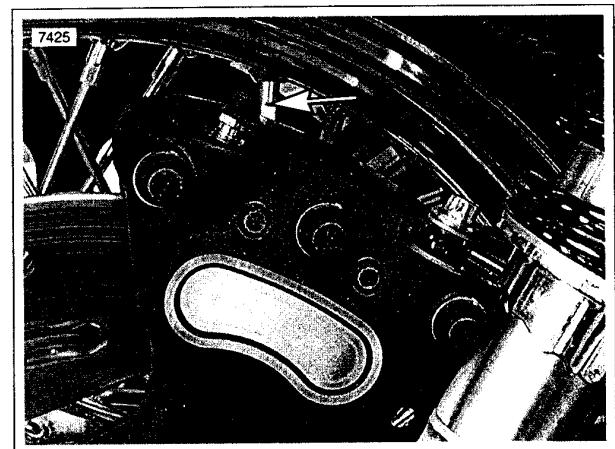

Figure 1-14. Rear Brake Bleeder Valve
- b. Rear brake bleeder valve-see Figure 1-14.